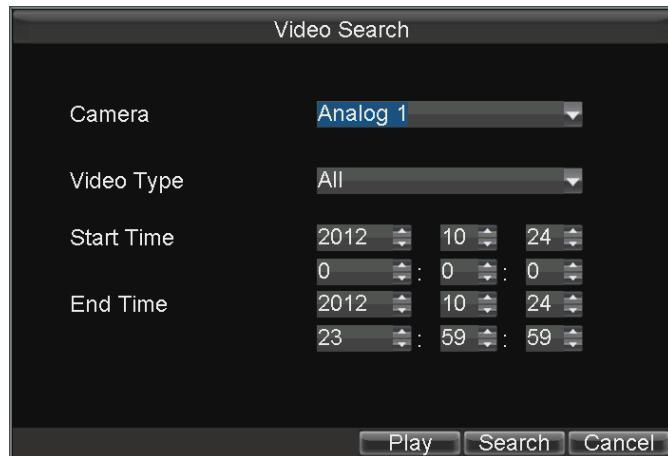

Figure 3.6 Video Search Interface
1. Enter the Video Search interface, as shown in Figure 3.6.